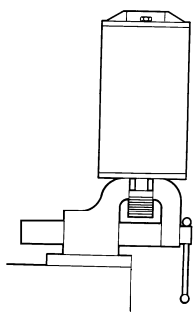

FIGURE 3
- 2 See Figure 3. Place the brush drive motor in a vice as shown. Be careful not to damage the pulley.